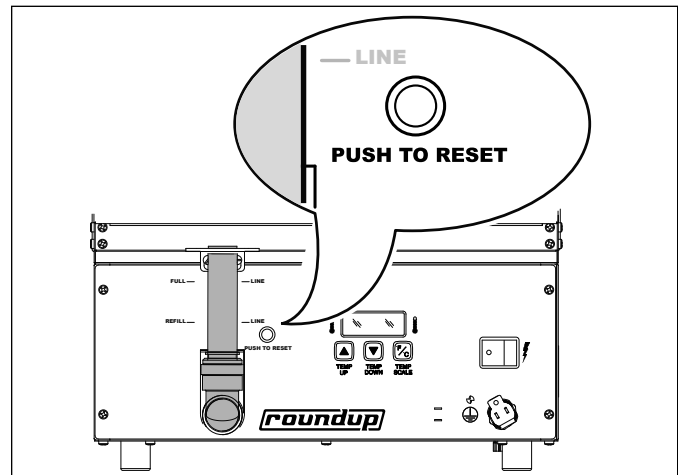

Figure 7. Hi-Limit Reset Button
3. Press the reset button located on the front of the unit (Figure 7).